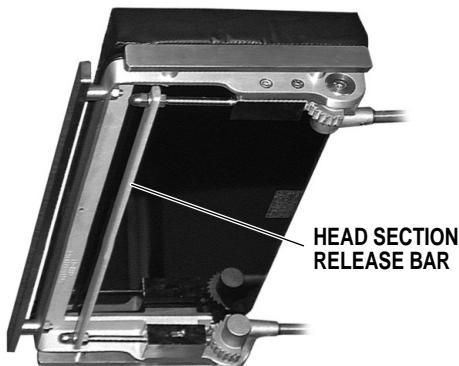

Figure 2-10. Head Section Adjustment
a. A quick release positioning bar located under and to the front of the head section (figure 2-10) is used to raise or lower the head section. Pull the release bar toward the head end to allow the section to pivot up or down. Positioning from 60° above horizontal to 90° below horizontal in 15° increments is available. Release the bar to lock the head section in position.